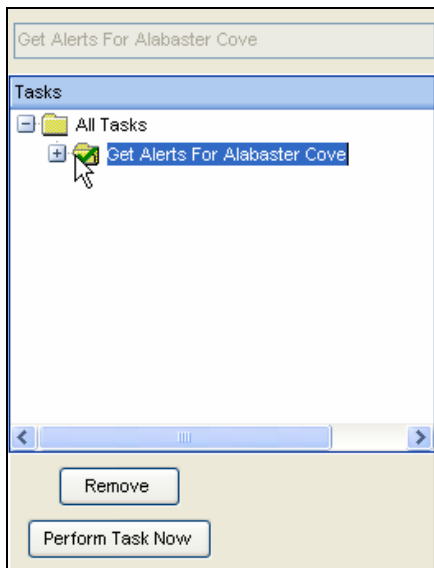

Figure 11.4.2
- Click on the task that you want to delete and highlight it. (Figure 11.4.2).